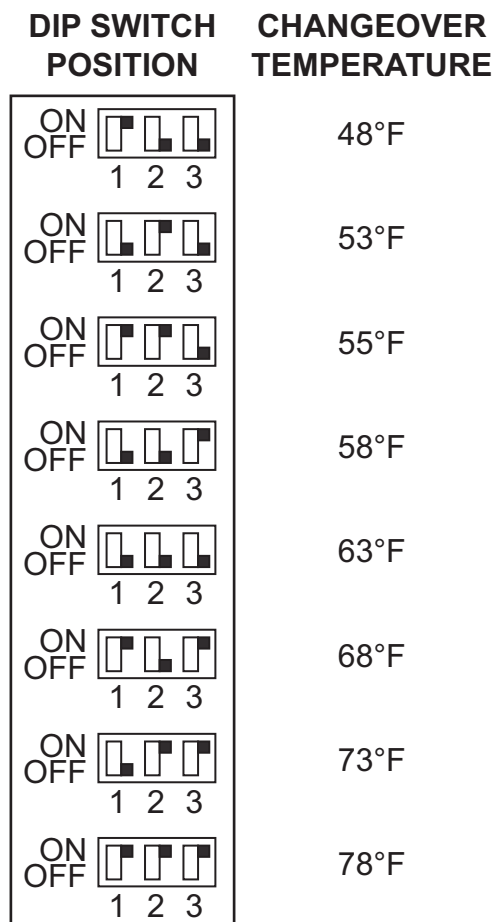
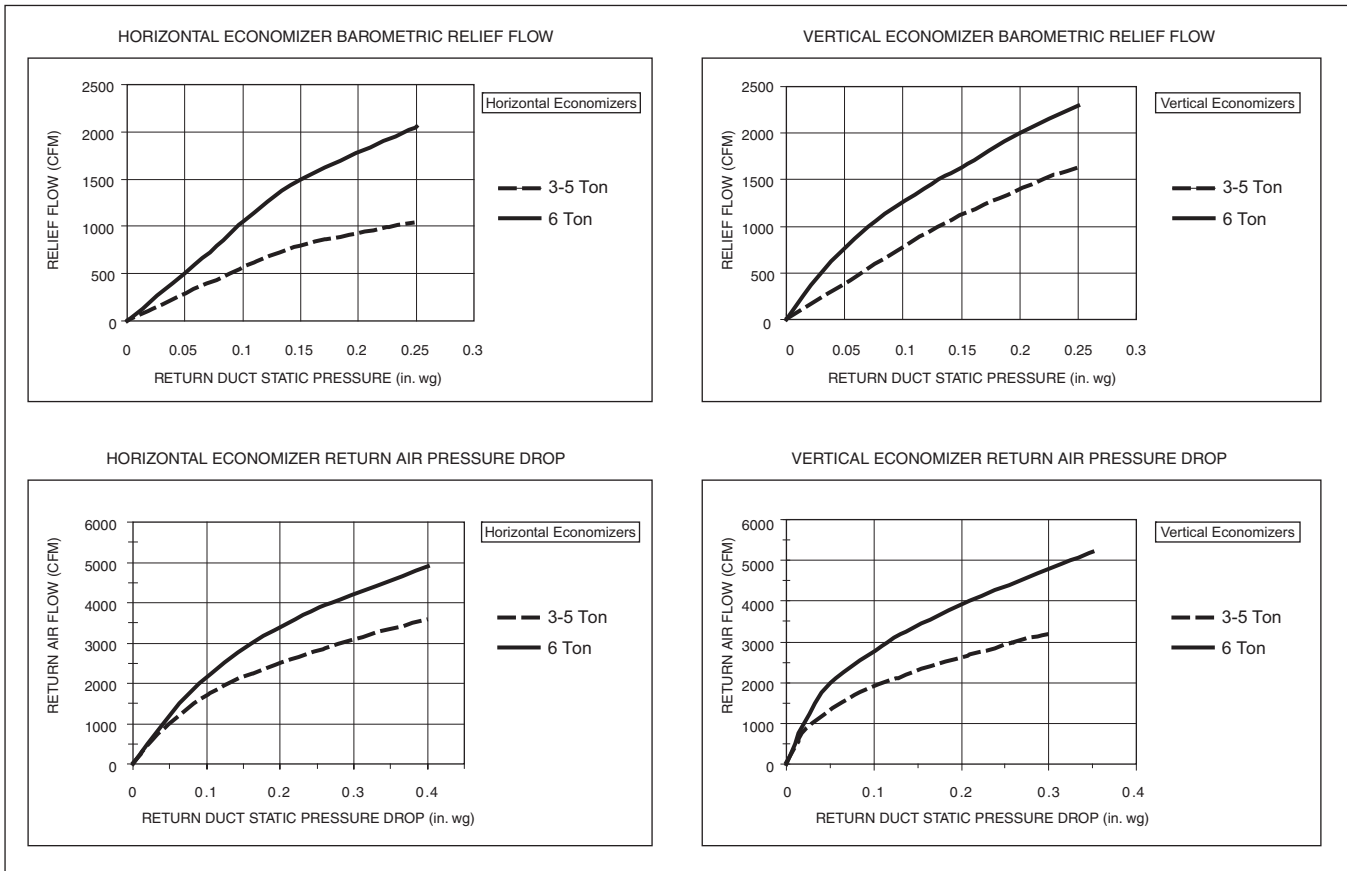

Fig. 71 — Outdoor Air Temperature Changeover Set Points
Fig. 72 — Outdoor-Air Damper Leakage
The standard controller is shipped from the factory configured for outdoor dry bulb changeover control. For this control mode, the outdoor temperature is compared to a selectable set point on the OAT sensor. If the outdoor air temperature is above the set point, the EconoMiSer IV will adjust the outdoor air dampers to minimum position. If the outdoor air temperature is below the set point, the position of the outdoor air dampers will be controlled to provide free cool cooling using outdoor air. When in this mode, the Free Cool LED next to the outdoor enthalpy set point (ABCD) potentiometer will be on. The changeover temperature set point is controlled by the dip switches on the sensor. See Fig. 71 for the switch positions corresponding to the temperature changeover values. The ABCD potentiometer on the controller should be turned fully clockwise (CW) to the “D” position. See Fig. 72 for damper leakage.